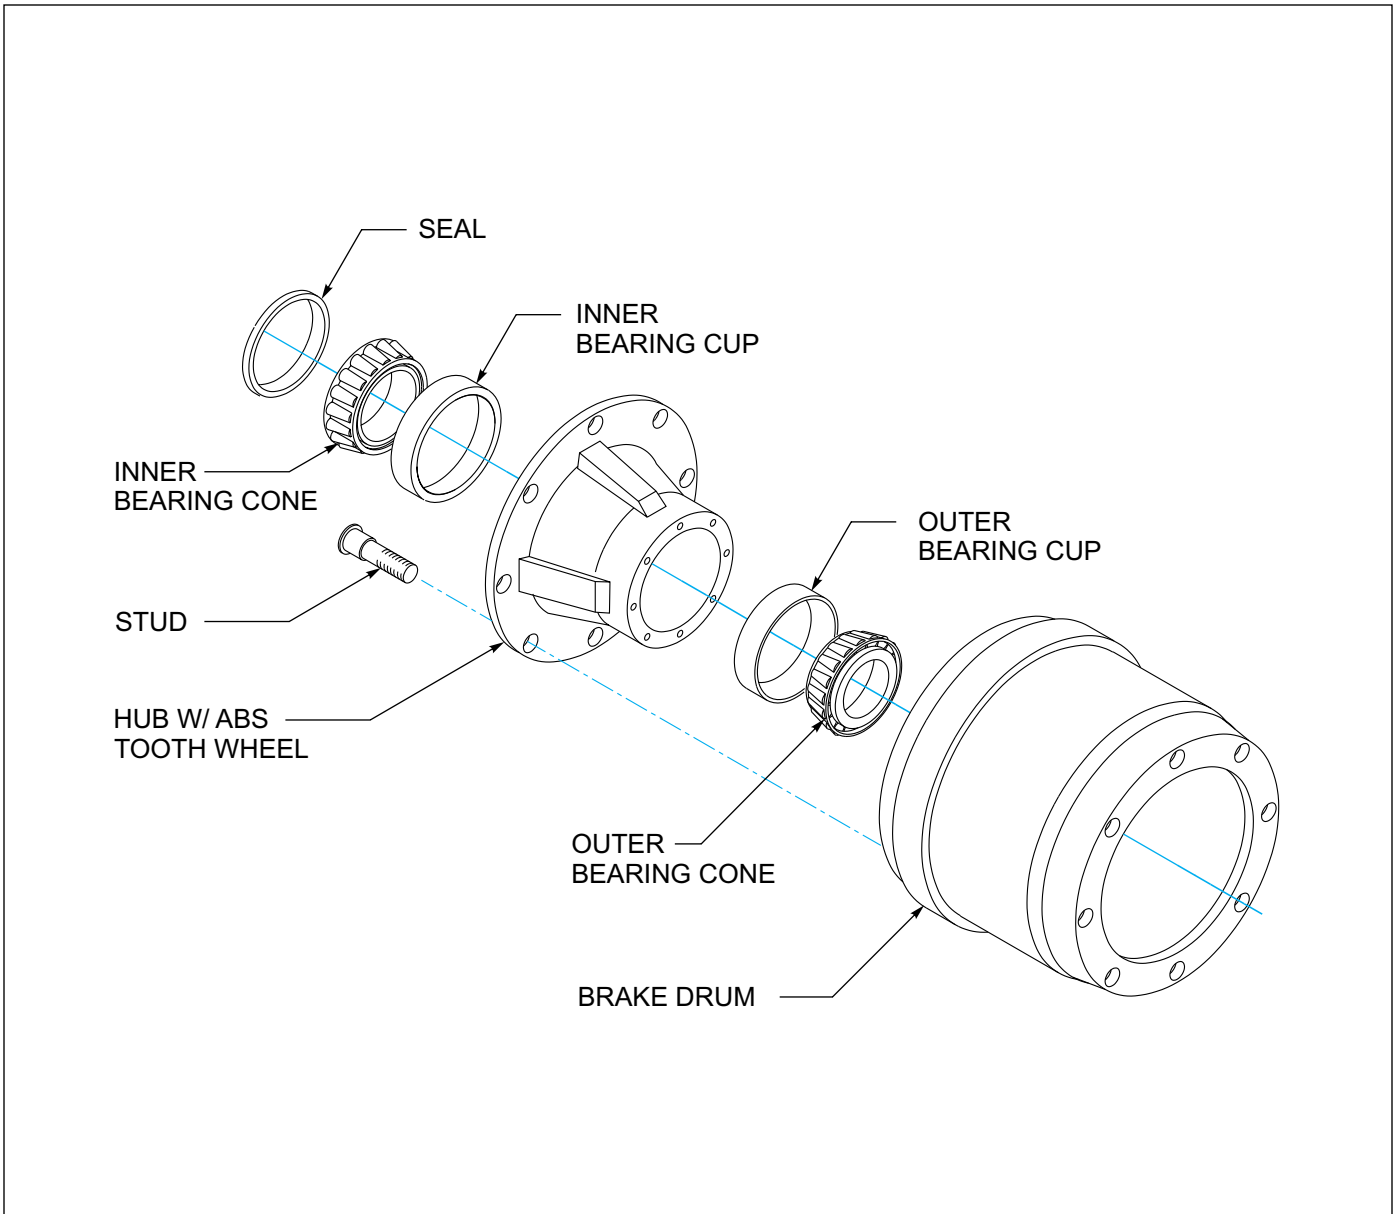

Figure 4-16: Outboard Hub and Drum
4. Replace the hub and drum as follows: (**See Figure 4-16.**)
- A. Remove the brake drum (**See Figure 4-16.**) It may be necessary to release the slack adjuster.